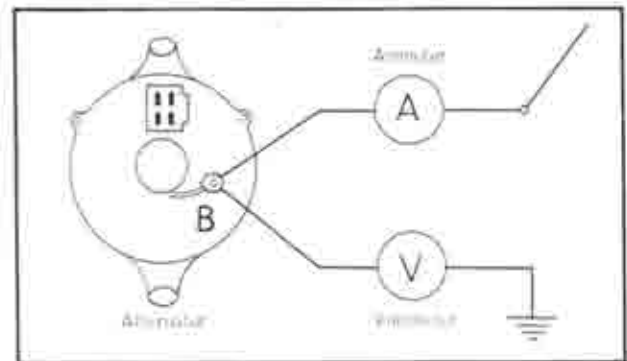

Fig. 5-9 Checking alternator
1. Disconnect the wire from "B" terminal of the alternator and connect the ammeter with the negative lead of the ammeter to the wire and the positive lead to the "B" terminal, as shown in Fig. 5-9